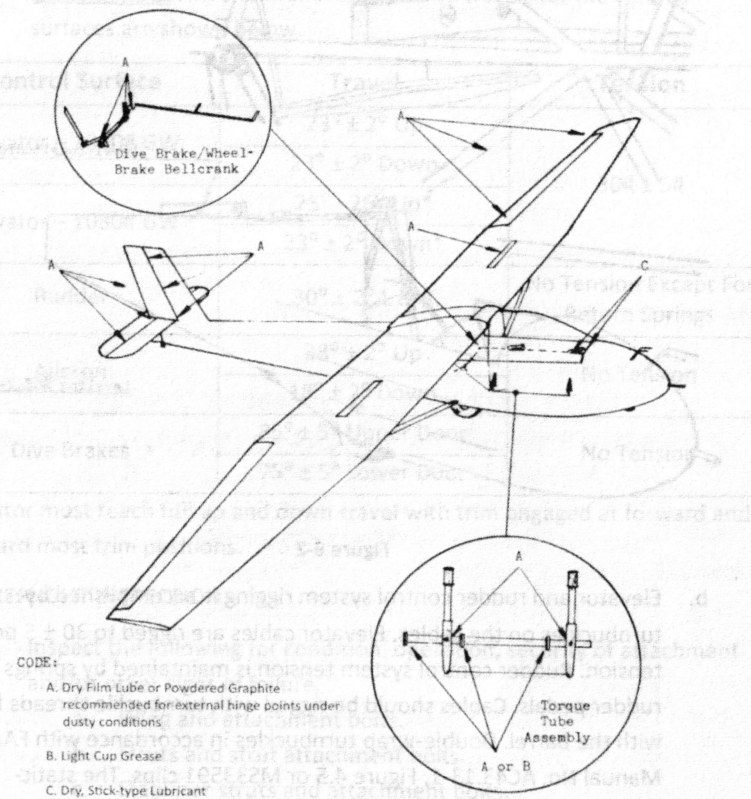

Figure 8-1 – Lubrication Chart
- 1. Lubrication: See Figure 8-1
Note For Ratchet Trim Equipped Sailplanes: Maintenance of the ratchet lock trim system is limited to maintaining security of attachments and periodic lubrication, with special attention to the spring-cartridge, per codes "A" and "B", Figure 8-1, Page 39. There are no field adjustments to be made to the trim system or the spring cartridge.